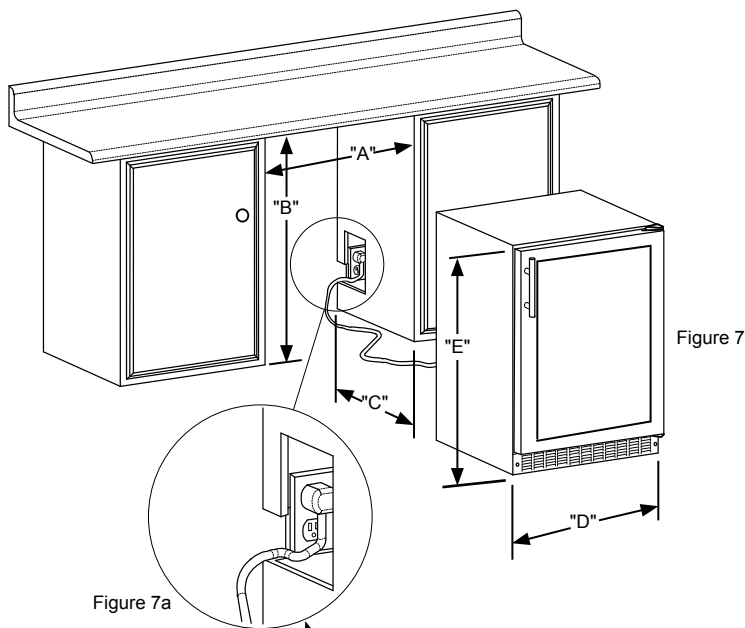

Figure 8
3) Make sure the wine cellar is in the desired location, then mark on the floor the rear and side corner of the cabinet where the anti-tip bracket will be installed. If the installation does not allow marking the rear corner of the cabinet, then make temporary lines on the floor marking the front corner of the cabinet, excluding the door. Slide the wine cellar out of the way. From the temporary line extend the sidewall line back 21 1/2" (54.6 cm) as shown in "Figure 8".
5) Fasten the anti-tip bracket to the floor using the supplied screw. (See "Figure 8").
If necessary to gain clearance inside the rough-in opening a hole can be cut through the adjacent cabinet and the power cord routed through this hole to a power outlet. Another way to increase the available opening depth is to recess the power outlet into the rear wall to gain the thickness of the power cord plug. Not all recessed outlet boxes will work for this application as they are too narrow, but a recessed outlet box equivalent to Arlington #DVFR1W is recommended for this application, (see Figure 8).